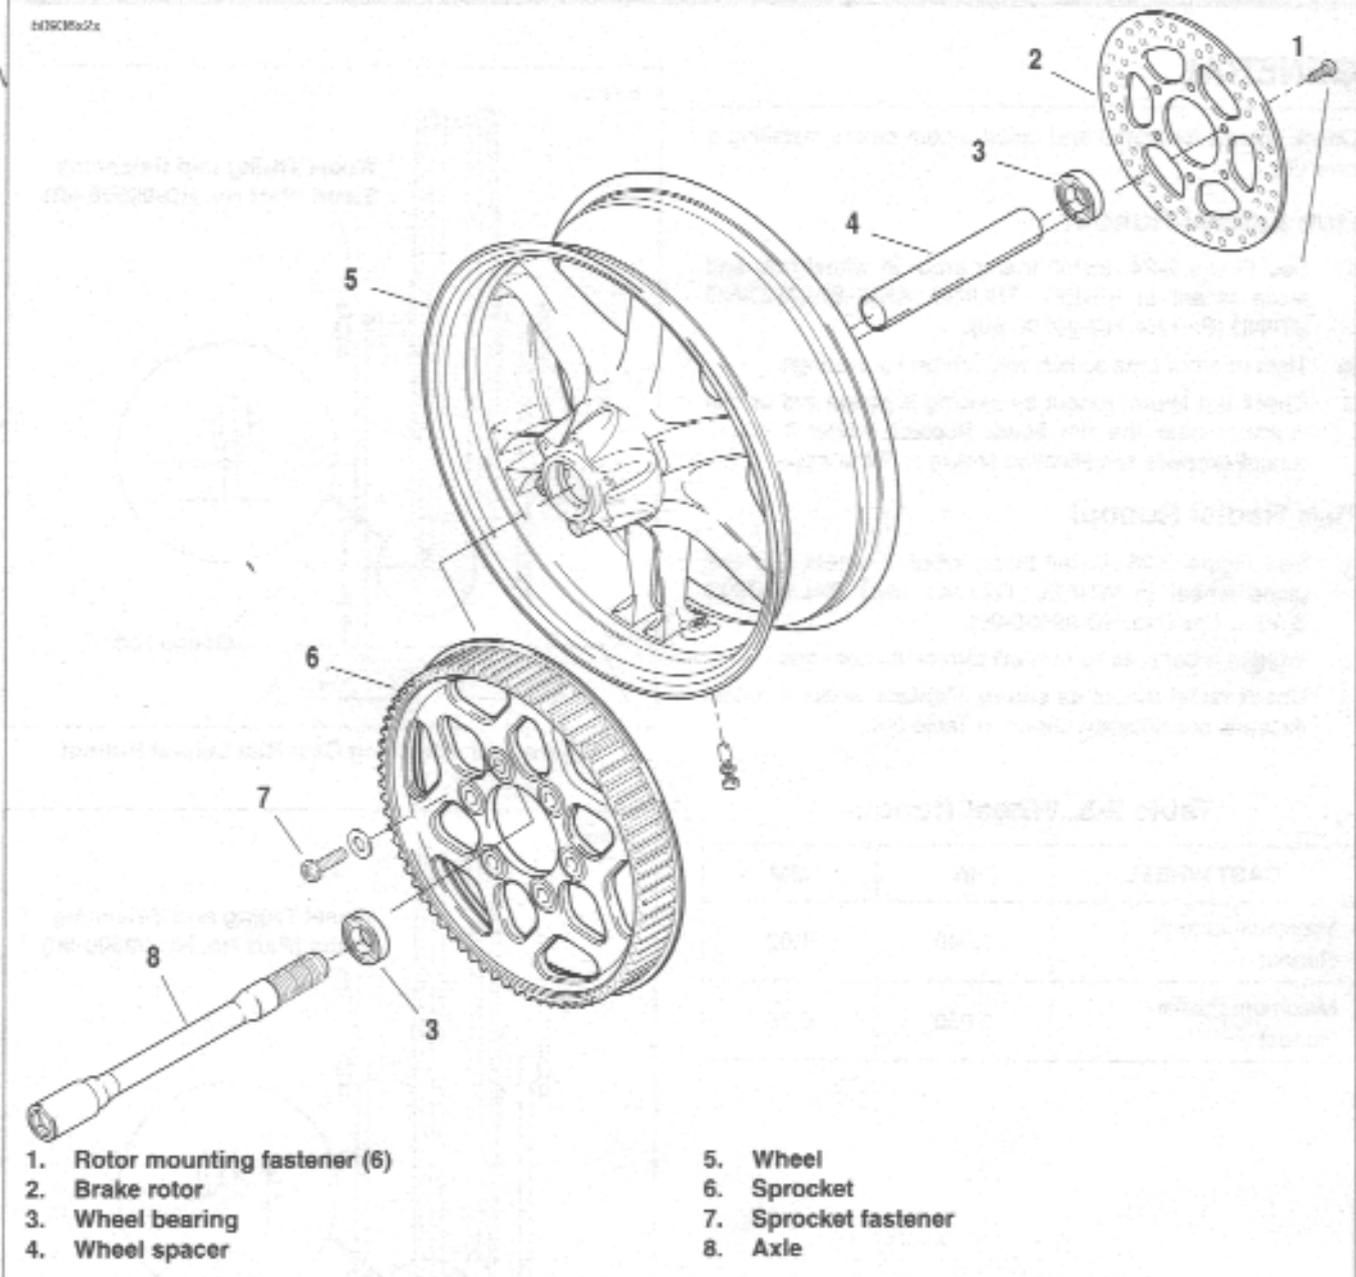

Figure 2-23. Rear Wheel Assembly
- a. See Figure 2-23. Remove and discard rotor mounting fasteners (1).
- See Figure 2-23. Install wheel bearing (3) on rotor side of motorcycle.
- Install rear wheel spacer (4).
- Install wheel bearing (3) on sprocket side of motorcycle. Remove rear wheel bearing. The procedure for the rear wheel bearing installation is the same as front wheel bearing installation. See Bearing Installation in 2.5 FRONT WHEEL.
- Position sprocket (6) on wheel (5) keeping lip of sprocket facing the inside.
- Install **new** sprocket fasteners (7) and washers tightening to 35-37 ft-lbs (48-50 Nm).
- See Figure 2-23. Install rear rotor (2).
- Position rear brake rotor (2) on wheel (5).
- Install brake rotor (2) with **new** rotor mounting fasteners (1) and tighten to 25-27 ft-lbs (34-37 Nm).
- See Figure 2-23. Install the rear axle by threading partially into swingarm.